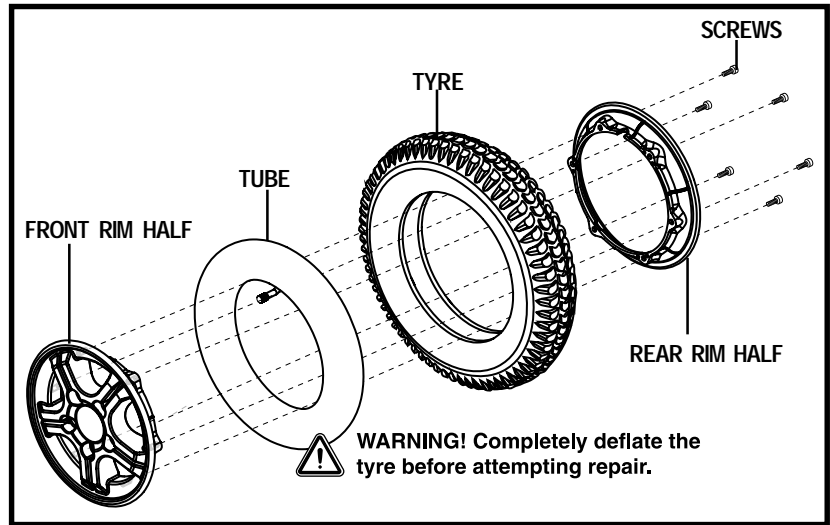

Figure 32. Drive Wheel Disassembly
6. Remove the screws that fasten the two rim halves together. See figure 32.
10. Reinstall the five (5) lug nuts onto the wheel hub and tighten.